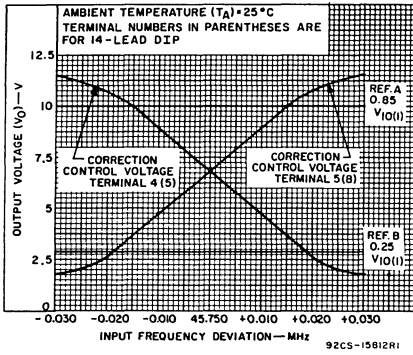
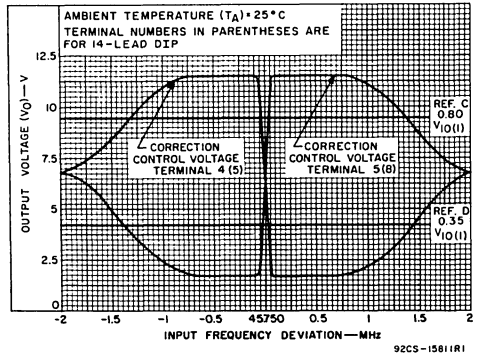

Fig. 6 - Typical narrow-band dynamic control voltage characteristics.
Fig. 7 - Typical wide-band dynamic control voltage characteristics.
Figures 5, 6, and 7 show the control voltages generated at terminals 4(5) and 5(8) of the Integrated Circuit as a function of the frequency deviation from the nominal center frequency. Figure 6 shows the region within 30 kHz of the center frequency while Figure 7 covers the entire bandwidth of the system. The horizontal reference lines on the figures are generated by a voltage divider connected between the power